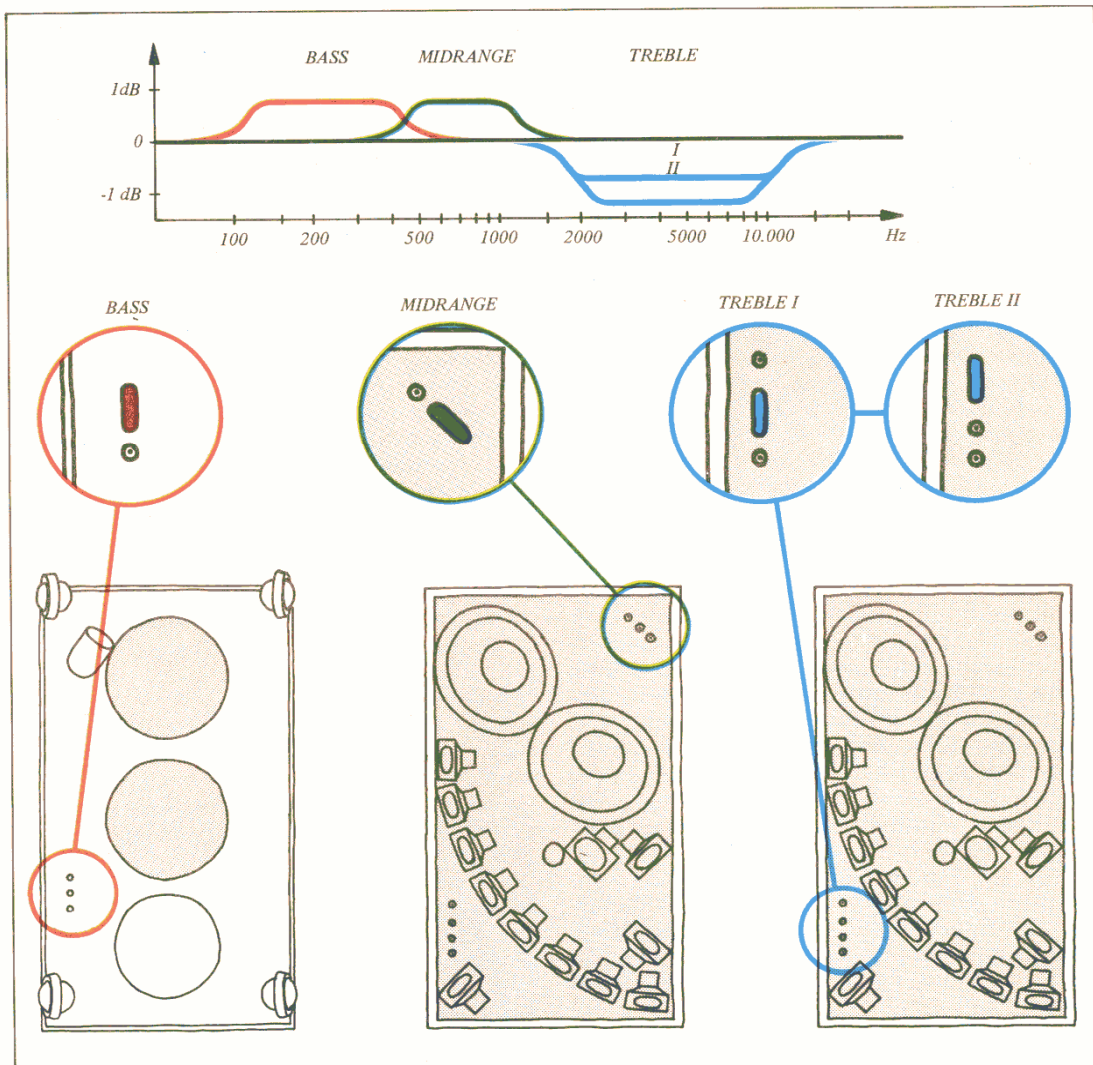

Fig. 3
In special cases it may be necessary to raise the loudspeakers somewhat from the floor. This would apply primarily when **OA2212** was being used as a monitor in a control room for recording music or in connection with a concert, when it may prove necessary to lift the loudspeakers so that they are higher than the sound engineer's mixing desk or at the same height as the ears of the audience. **OA2212** can be raised about 40 cms over the floor and still retain the even and flat frequency response which is characteristic of **OA2212**. Between 20 and 40 cms above the floor a certain amount of reduction of the bass occurs, but this is quite simply compensated by moving the tone control stirrup for the bass to the maximum position – see fig. 3 (*BASS*).
With **Sonab OA2212**, correction for room acoustics is done primarily with the aid of three tone control stirrups on the loudspeaker — see fig. 3. This correction makes possible a bass and midregister lift of over one dB and a reduction of over two dB in the treble register. This is sufficient to compensate for the acoustical peculiarities of the room.
**Tone controls:** The level in the upper section of the bass register can be adjusted in two steps with over 1 dB per step. The level in the mid-register can be adjusted in 2 steps with over 1 dB per step. The level in the treble register can be adjusted in 3 steps with over 1 dB per step. (See fig. 3.)